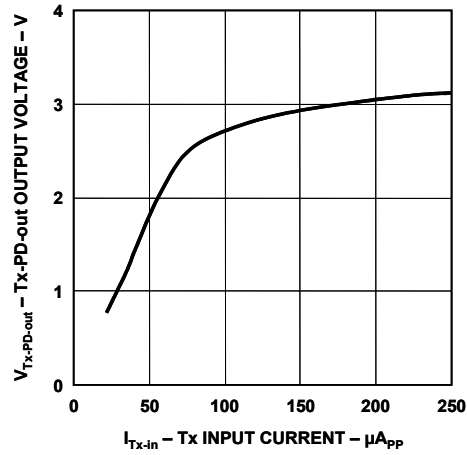
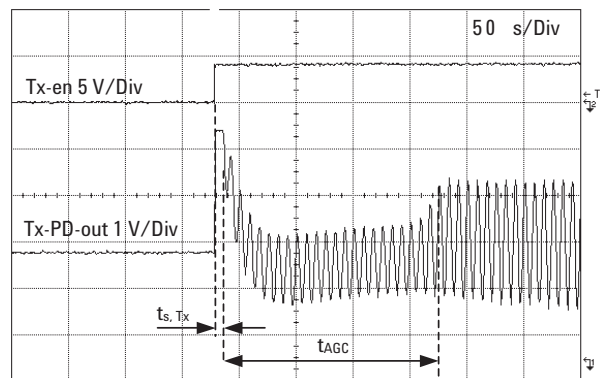

Figure 8. Tx-PD-out output voltage vs. Tx-in input current
Figure 26. Tx-PD-out AGC response time
- Time from transmit is enabled (V_{Tx-en} is set to logic high) until output (Tx-PD-out) is available. See Figure 26 in the Application Information section.
- Time from output (Tx-PD-out) is available until Tx-PD-out signal reaches 66% of its steady state level. See Figure 26 in the Application Information section.
This AGC circuit compensates for variations in the input signal level presented at Tx-in and variations in the optical channel over temperature and time. The Tx-PD-out output signal is effectively stabilized for input Tx-in signals of between $150 \mu\text{A}_{pp}$ and $250 \mu\text{A}_{pp}$ (see Figure 8). The AGC circuit starts to function $10 \mu\text{s}$ after the Tx-en signal is set to logic high. After a period of $180 \mu\text{s}$ the Tx-PD-out signal typically reaches 66% of its steady state level (see Figure 26). To ensure correct operation of the internal circuitry, an external $1 \mu\text{F}$ capacitor needs to be connected from pin 11 to GND2.